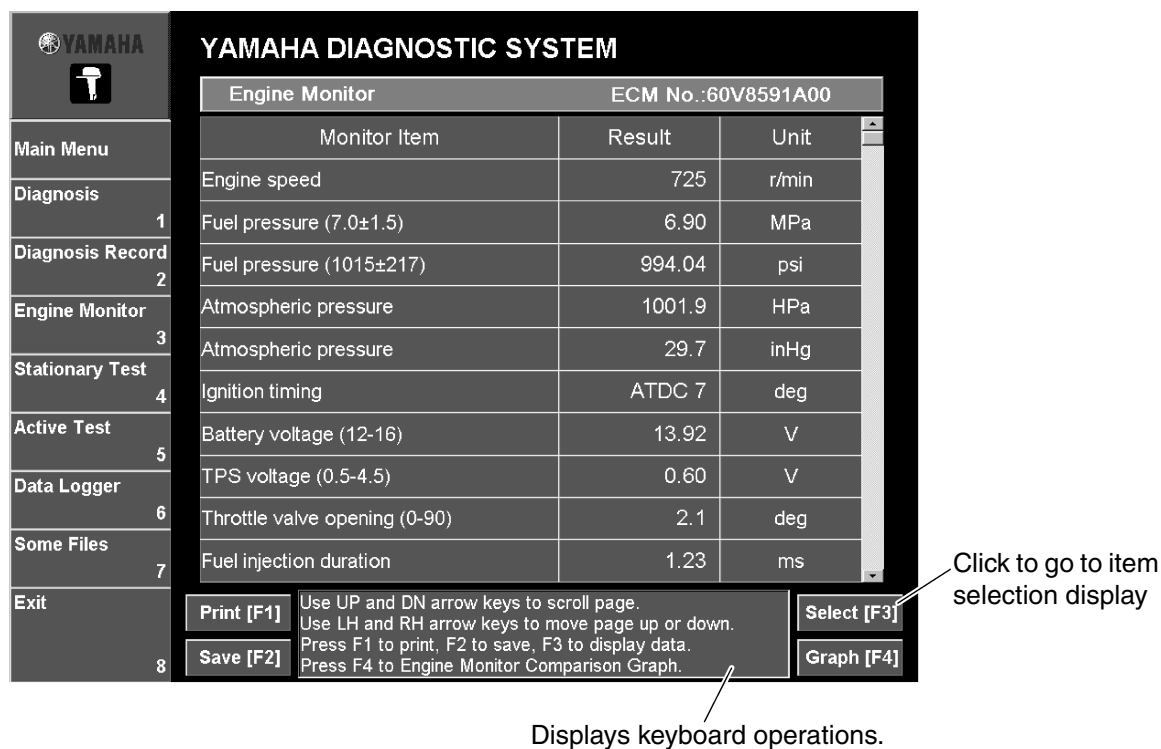

Fig. 25
- 1. Click the **Graph [F4]** button at the bottom right of engine monitor window, or else hit the F4 key. (Fig. 25)